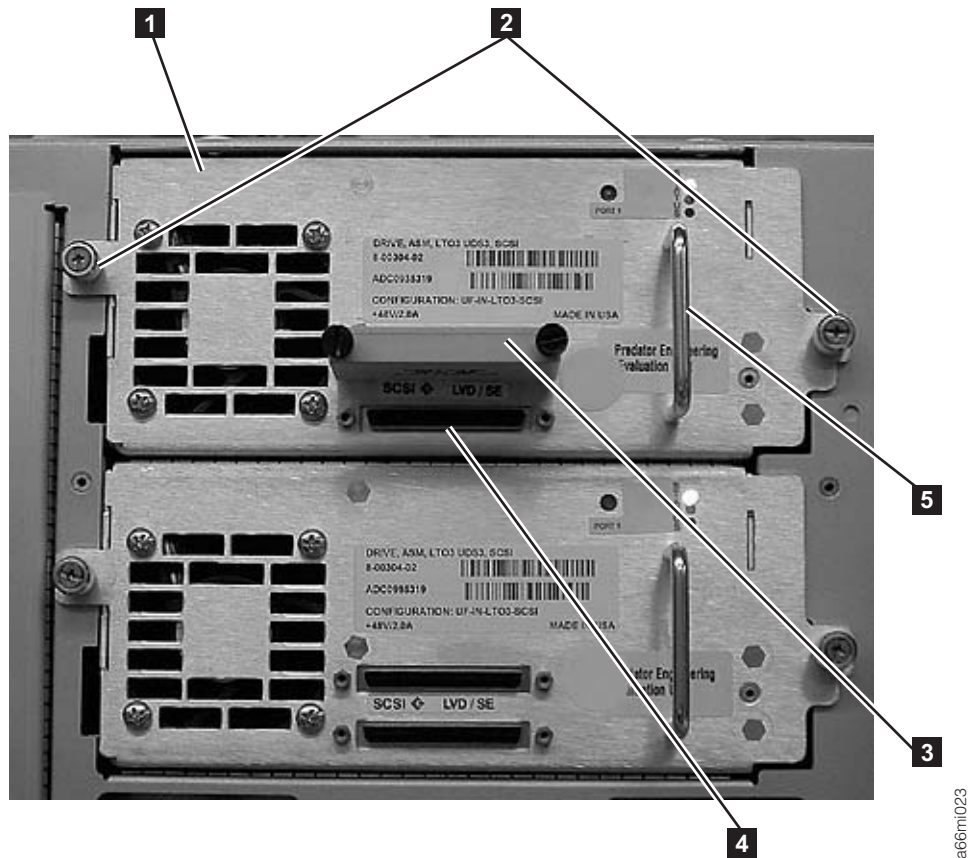
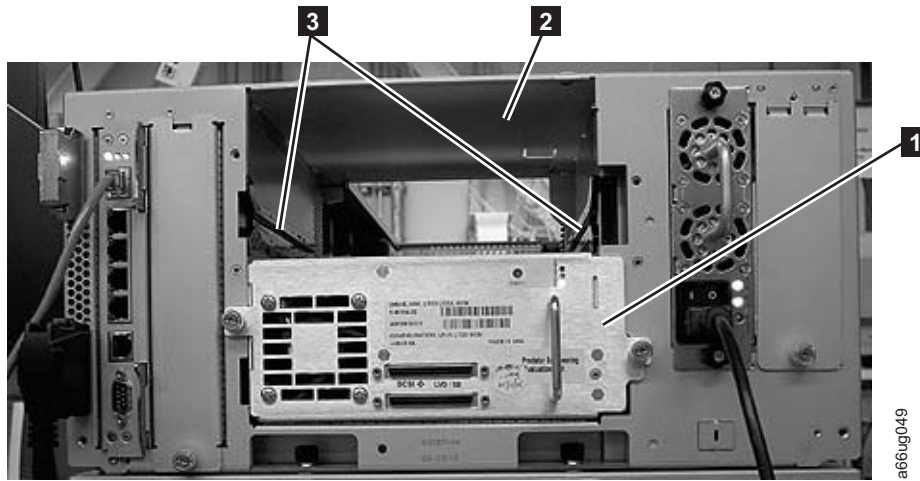

Figure 12-15. Drive sled (detail)
Figure 12-17. Drive sled slot
3. Loosen the two thumb screws (**2** in Figure 12-15) that hold the drive in place by turning them counterclockwise.
4. Slide the drive out of the library module. Grasp the handle (**5** in Figure 12-15) and slowly pull the drive toward you, while supporting the drive sled from underneath.
1. Align the drive sled with the guide rails and guide slots along the tracks (**3** in Figure 12-17) in the open drive sled slot (**2** in Figure 12-17). Grasp the handle (**5** in Figure 12-15 on page 12-19) and slowly slide the drive sled into the library, while supporting the drive sled from underneath.
2. Tighten the two thumb screws (**2** in Figure 12-15 on page 12-19) that hold the drive sled in place by turning them clockwise.
- a. For a SCSI drive sled, plug the cable and terminator into the drive sled. Tighten the thumb screws that hold the SCSI cable (**4** in Figure 12-15 on page 12-19 shows the SCSI receptacle) and terminator (**3** in Figure 12-15 on page 12-19) in place by turning them clockwise.